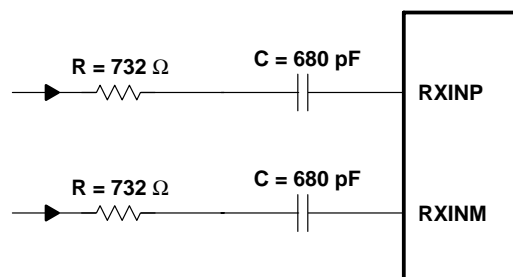

Figure 1. External Components for RXINP and RXINM
External components are required to implement CPGA function. Suggested components and connection are shown in the Figure 1.
The configuration of Figure 1 gives the following setting for CPGA: -9dB to 9dB in 6 dB/steps and 9 dB to 30 dB in 3 dB/steps. The CPGA gain range is controlled by external resistors (732Ω shown in Figure 1). The cut-off frequency of the HPF is controlled by external resistors (R) and capacitors (C). To keep the cutoff frequency of the first HPF unchanged, $R \times C$ need to be constant.